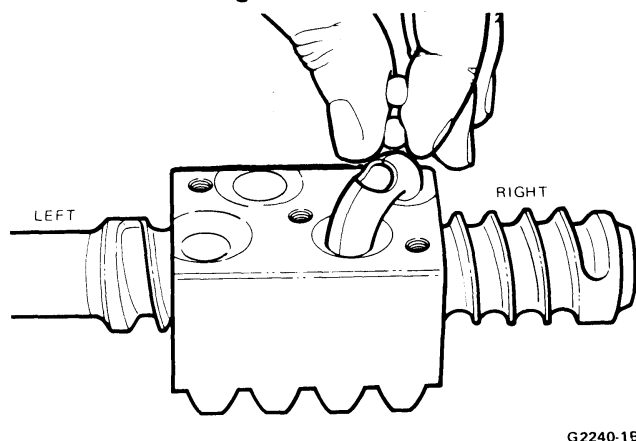

FIG. 16 Filling Ball Circuits
- Count 25 balls into a suitable container. This is the proper number of balls for one circuit. Press 20 of these balls into one of the guide holes using the end of a suitable pin punch. NOTE: Do not rotate worm shaft while installing balls. All balls must be enclosed within the two circuits (Fig. 16).